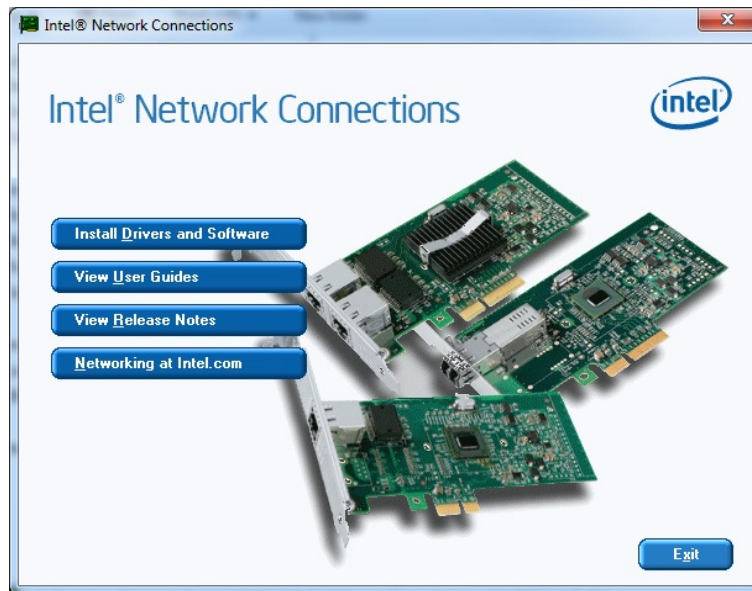

Figure 6-11: Intel® Network Connection Menu
Step 5: The Intel® Network Connection menu in **Figure 6-11** appears.